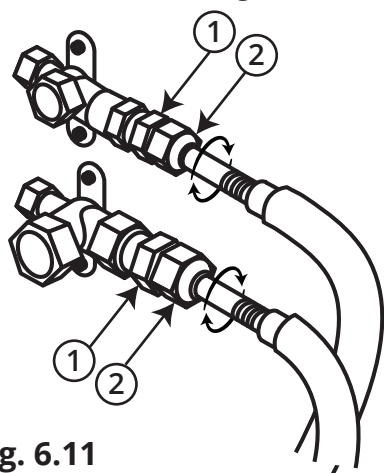

Fig. 6.11
3. Using **Fig. 6.11** below as a guide, and the steps outlined in this paragraph, you will now tighten the nuts of the screw connectors of the Quick Connect® line set to the indoor unit. Using two appropriate sized open-ended wrenches (depending on the dimensions of the connector) or adjustable crescent wrenches, place one of the wrenches on the nut marked "1", and the other wrench on the nut marked "2," as shown in the image below. Now, turn the wrench on the nut marked "2" in the direction of the rotational arrows, as shown, while holding the other wrench in place. Continue to tighten the connector until snug.